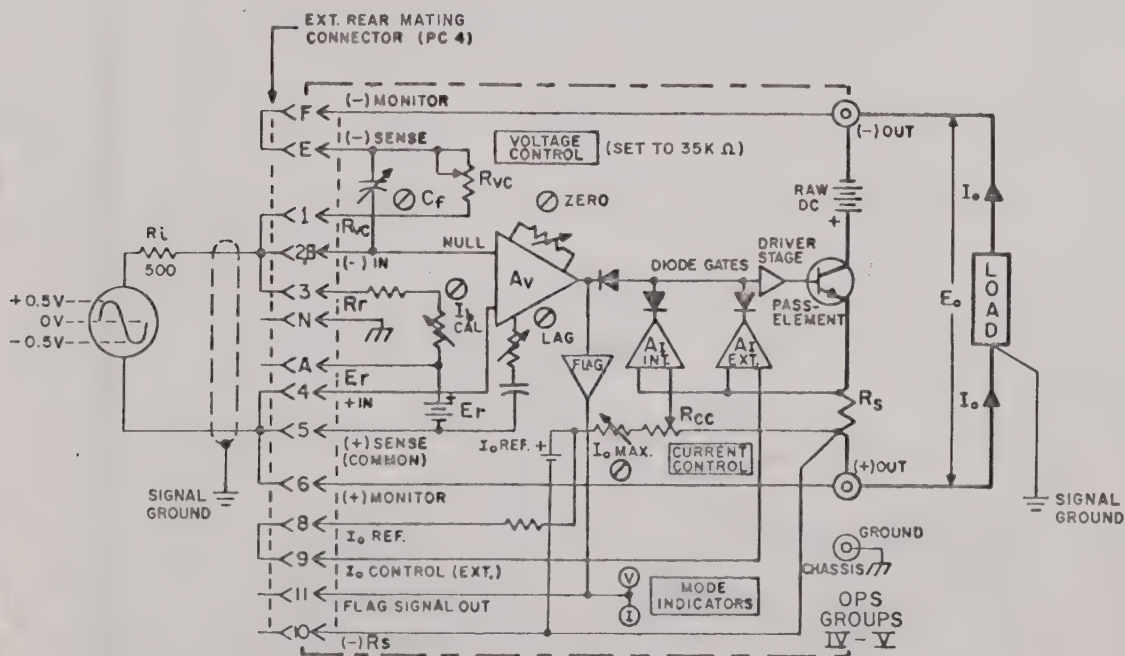

FIG. 3-8 SINE-WAVE PROGRAMMING WITH D-C BIAS.
- 3-31 CALIBRATION. (Refer to Section II, FIG. 2-1 for location of controls.) Connect all external components as shown in FIG. 3-8. Connect an oscilloscope across the load. Turn OPS "on," and set output to zero by shorting the feedback terminals (2, B) – (E). Set to exact "zero" by means of the ZERO control. Remove short, set OPS VOLTAGE control to (-) 35 volts. Turn SIGNAL GENERATOR "on" and adjust amplitude to 1 volt peak-to-peak. Observe output wave with an oscilloscope. The amplified sine wave should have an amplitude from 0 to (-) 70 volts, as the input signal is varied from (-) 0.5 volt to (+) 0.5 volt. The full power frequency response of the OPS under these operating conditions will be approximately from d-c to $f_{\max}$, where: